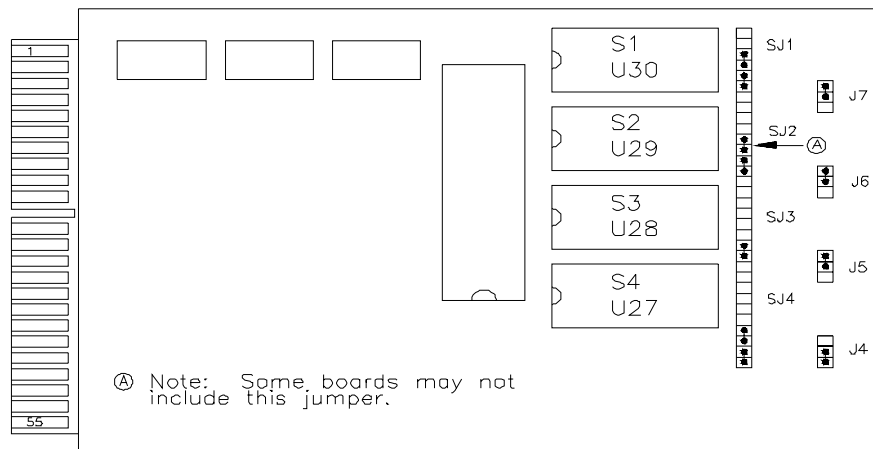

Figure 2 1802 CPU Card Showing Positions and Orientation
7. Refer to figure 2 to locate the EPROM sockets. Depending on the revision of your board, the sockets are marked S1 to S4 or U30 to U27.
11. Carefully insert the new EPROM into the empty S4 (U27) socket. Insert the EPROM by placing the chip, with the alignment notch in the position shown in figure 2, over the socket and aligning the pins to the socket holes. With the pins in place, gently press down on the top surface of the chip. Press the chip in until it is fully seated.